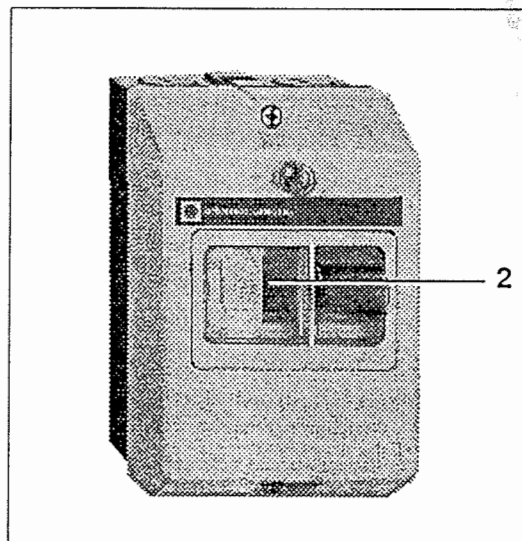

Fig. 28 Motor protection switch
- **Three-phase current:** the motor is switched off either manually by pressing the stop button (2, Fig. 28) or automatically by a thermic release.